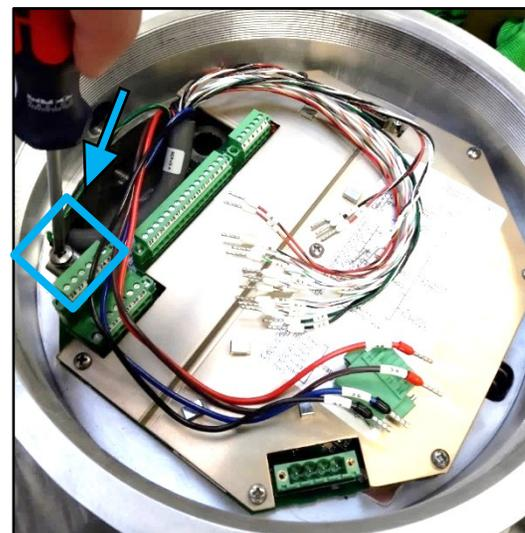

Figure 2-16. Ground Screw Placement Inside VariStroke
35. Unscrew grounding (use Phillips screwdriver; **PH2** tip size) (Figure 2-16).